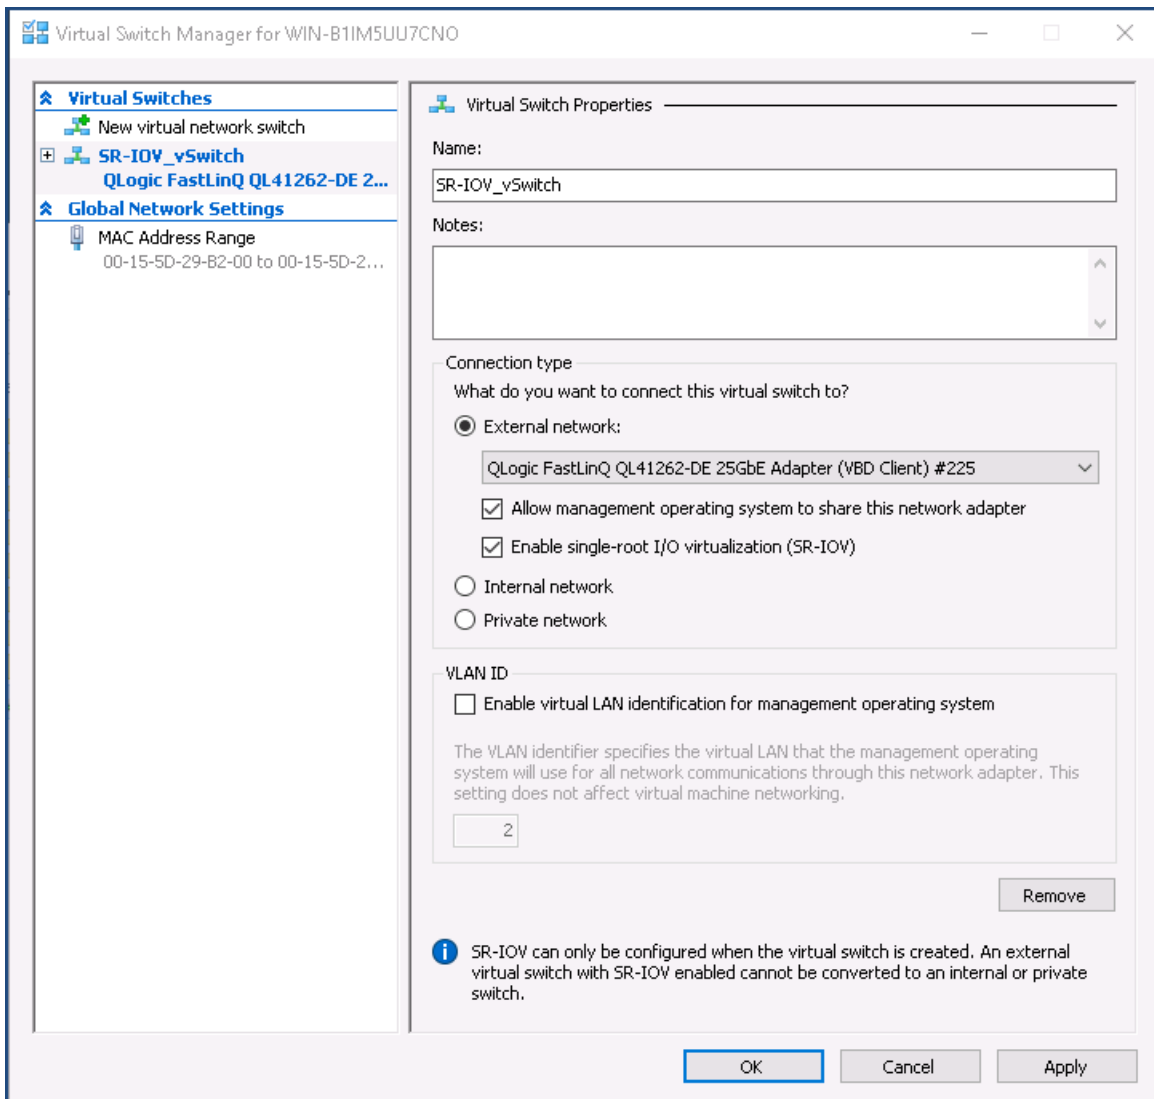

Figure 11-4. Virtual Switch Manager: Enabling SR-IOV
10. To create a Virtual Machine Switch with SR-IOV (Figure 11-4 on page 201):